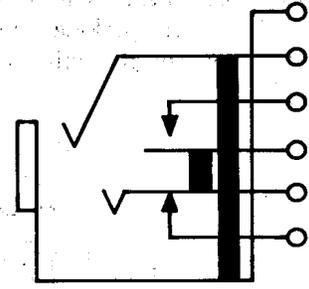

Fig. 9—363-Type Jack
2.09 363A, C, and CM: These single-mounted jacks (Fig. 9) are used with the 310 or similar-type plugs. These jacks are heavily insulated and are specially designed and adjusted for use in telegraph repeater equipments for limited service only. The 363-type jacks are recommended for general use. These jacks are intended to be mounted with the springs in a vertical plane. The 363CM jack is equipped with mechanically wrapped connections.